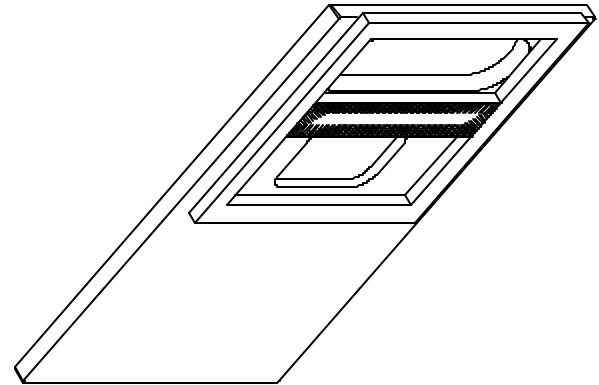

FIGURE 5
3. Attach the basepan foam gasket to the bottom of the basepan in the area shown in Figure 5.